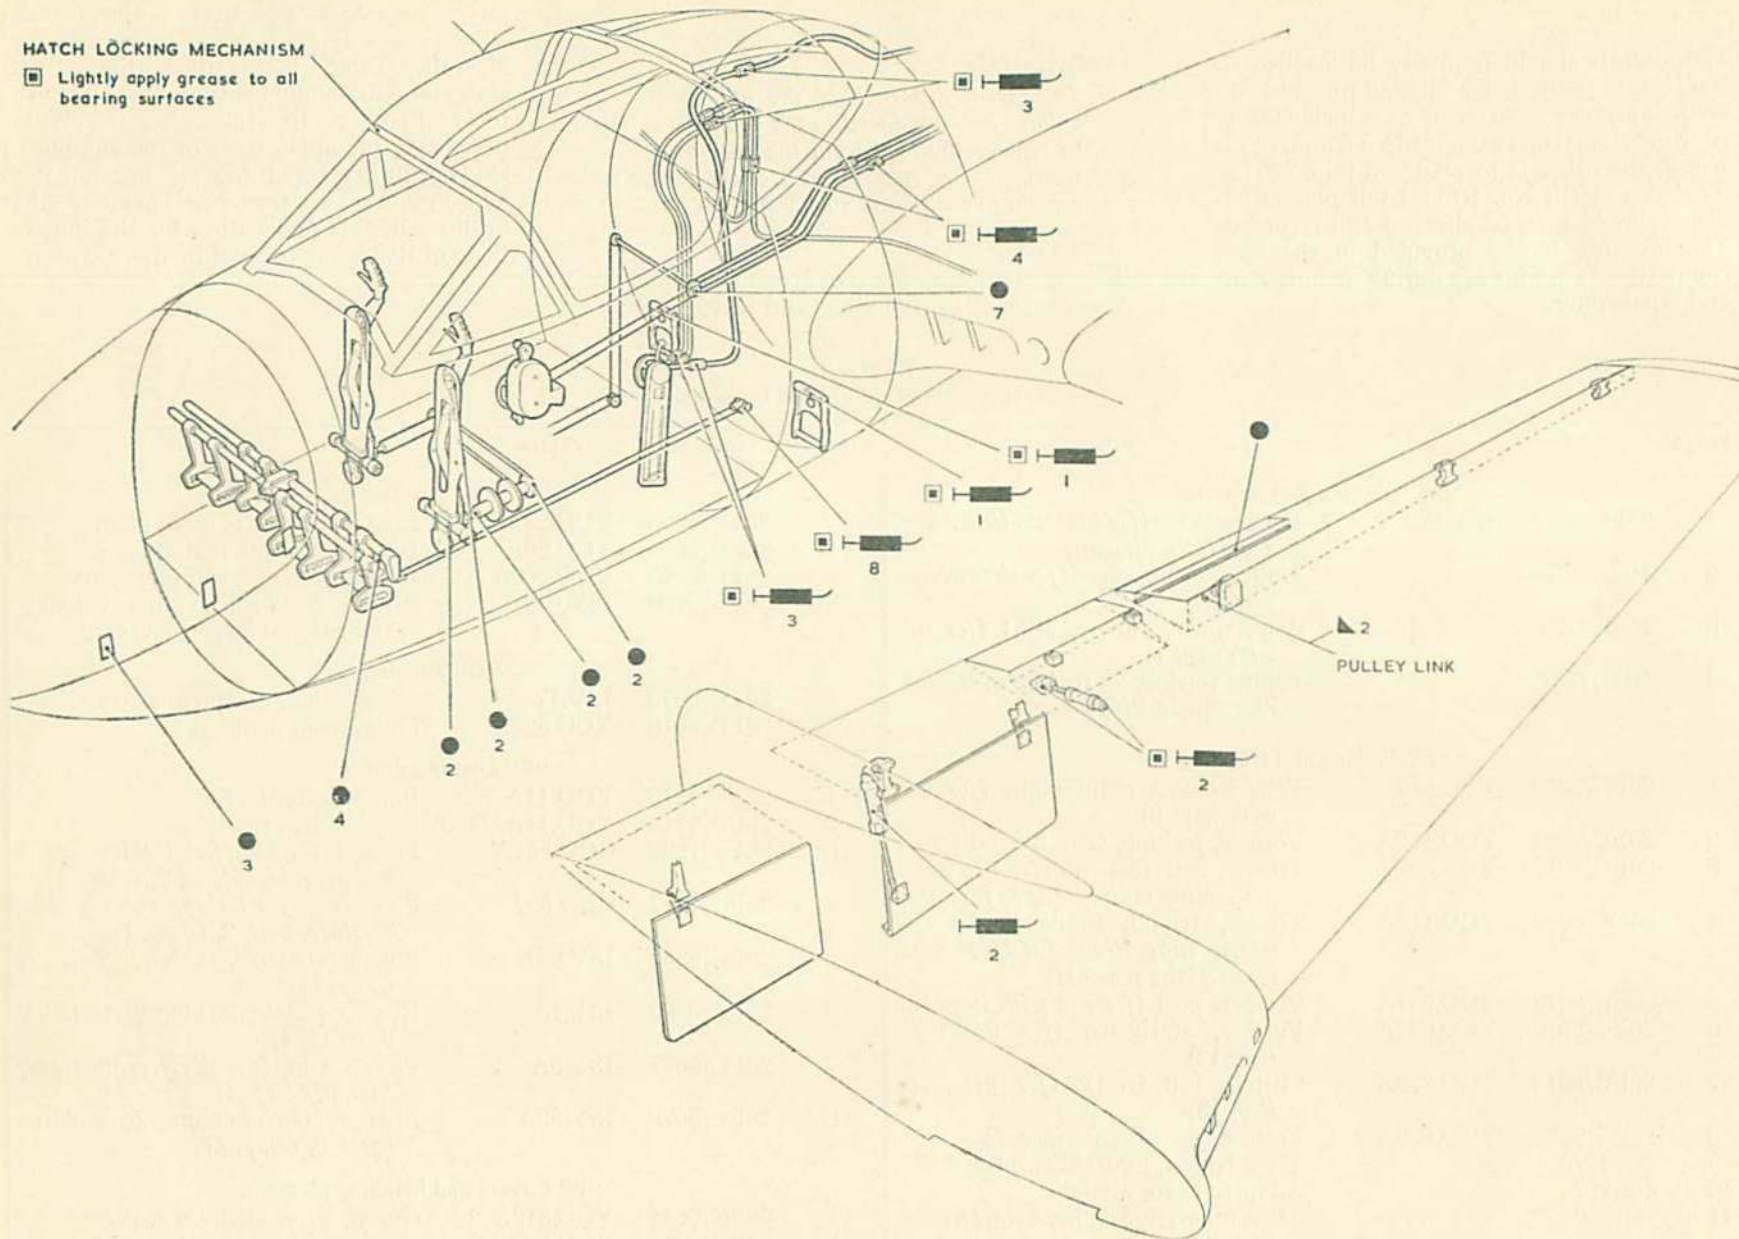

Fig. 5. Lubrication—fuselage and wing
5. The lubrication points are shown in figs. 5 to 8 inclusive and a key to the lubricants to be used is given in the table at the end of this paragraph. The figure against each symbol denotes the number of points requiring lubrication. Shielded ball-races are pre-packed with grease on assembly and should not require further attention during the normal life of the aircraft. Unshielded ball-races must be lubricated as indicated in the illustrations.